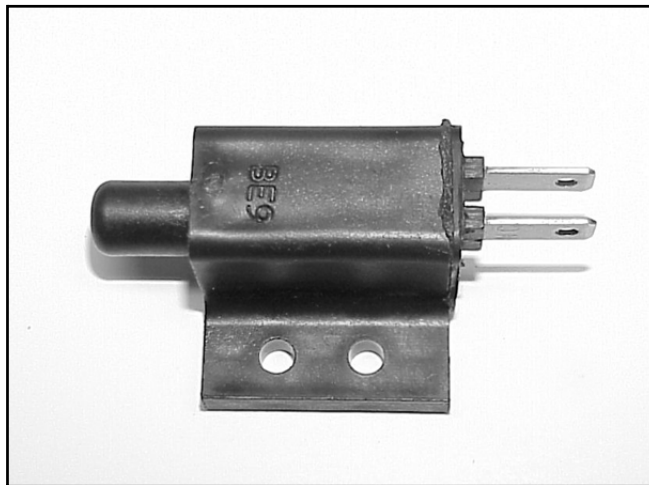

Figure 41
3. Depress the plunger on the switch and check the continuity across the terminals, there should be NO continuity (Figure 41).